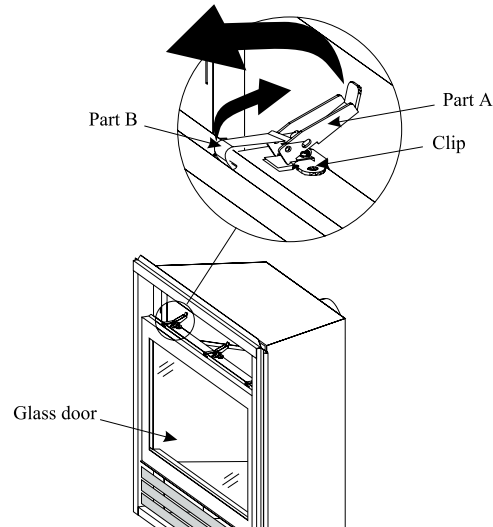

**Figure 22.** ME38-ODV-2 insert.
2. Remove the fresh air flex from the collars on the shell. *See Figure 22. Important: Be careful not to damage the fresh air flex during removal or storage.*